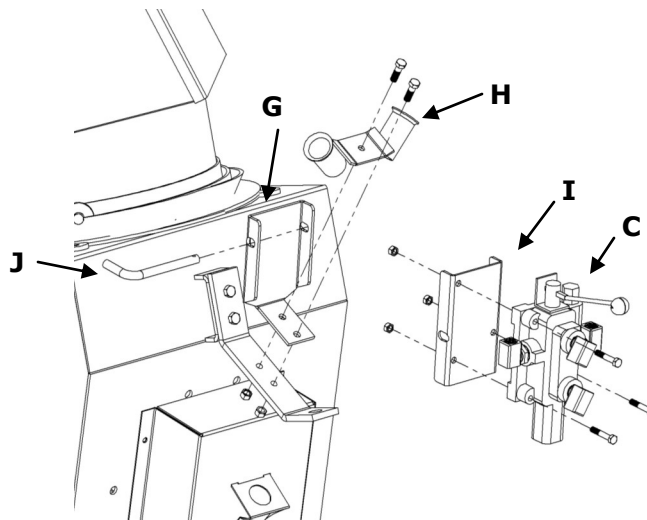

Figure 3
Next, attach the Hydraulic Valve Attach Plate(G) to the boot as shown in figure 3 with two 3/8" x 1-1/4" bolts. If you were supplied with any Hose Holders(H) use these bolts to secure them. Now bolt the Valve(C) to the Valve Mount Plate(I) using three 5/16" x 1-3/4" bolts and locknuts. Finally use the supplied Pin(J) and a Grip Clip to secure (I) to (G).